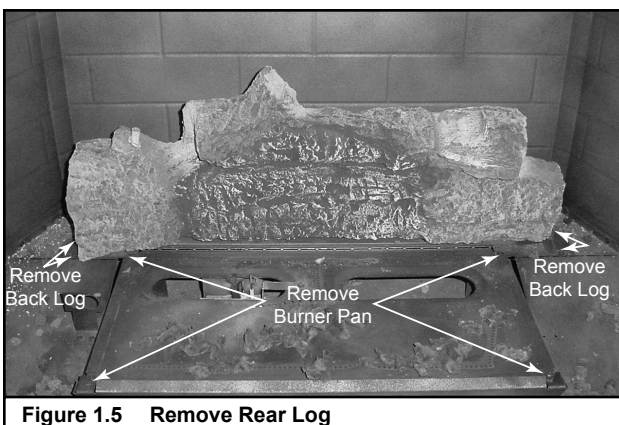

Figure 1.5 Remove Rear Log
- Remove four screws securing the rear log (Figure 1.5). Lift rear log and remove from firebox.
- Remove the main burner by removing four screws (Figure 1.5), one at each corner. Slide the burner to the left and lift out. Set aside.